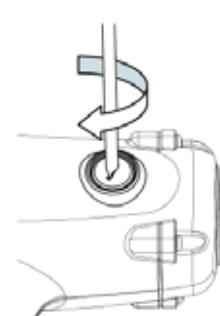

Fig. 6
- Lock the carbon brush panel back clockwise by using slotted bit. (Fig. 6).